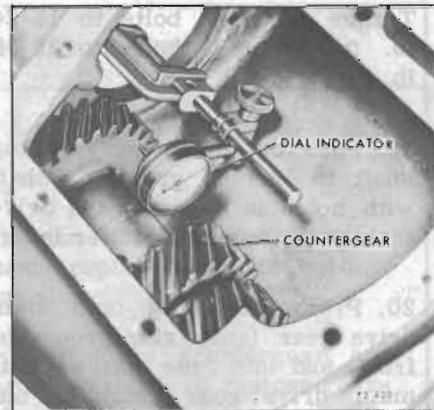

Figure 72-420—Checking Countergear Alignment
5. Attach a dial indicator as shown in Figure 72-420 and check end play of countergear. If end play is greater than .025" new thrust washers must be installed.